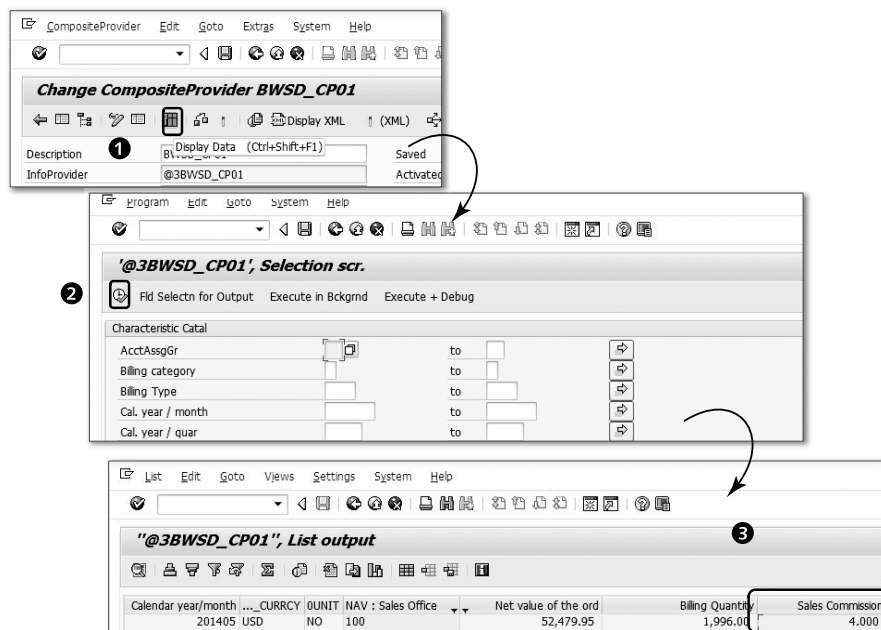

Figure 6.75 Displaying Data from a Composite Provider
We recommend using the display data functionality to establish information output from the CompositeProvider. Click on the DISPLAY DATA icon (1 of Figure 6.75) to see the options for filtering the data to be included or excluded in the output (2). Choose the EXECUTE icon (2), and check the output (3).